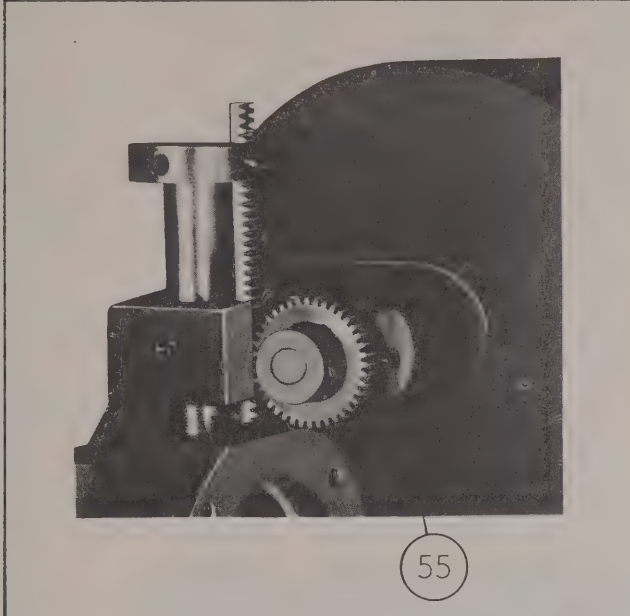

Figure 4-41. Monitor Drive Loading Spring in Place
Figure 4-41 shows the spring-loading system for the monitor pick-up. The rack should be meshed with the pinion in such a way that when the POWER SET con-
trol is completely counter-clockwise, the end of the rack is $1/16''$ from the cavity. At this point the screw (55) in the pinion should be at three o'clock as shown. If necessary, reset the pinion to obtain this requirement, but retighten the set screws in the pinion a little at a time so that the pinion is not tilted on its shaft and so that there is negligible end play in the pinion drive. The collar should then be secured to the rack as shown in figure 4-41. The collar should not touch the end of the RF probe holder and if necessary the rack can be remeshed with the pinion so that the collar does not travel as far as the end of the RF probe holder. The spring can then be strung as shown.